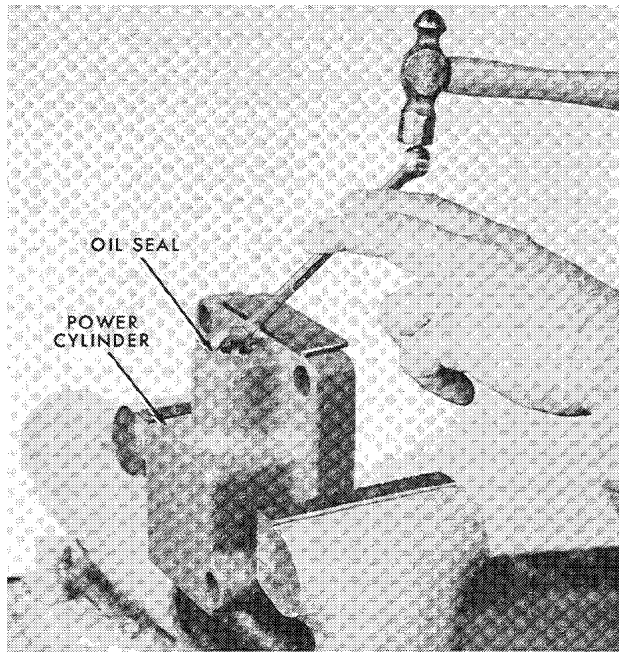

Figure 3-2
- b. Grip power cylinder (12) in a vise to remove the oil seals as shown in Figure 3-2.